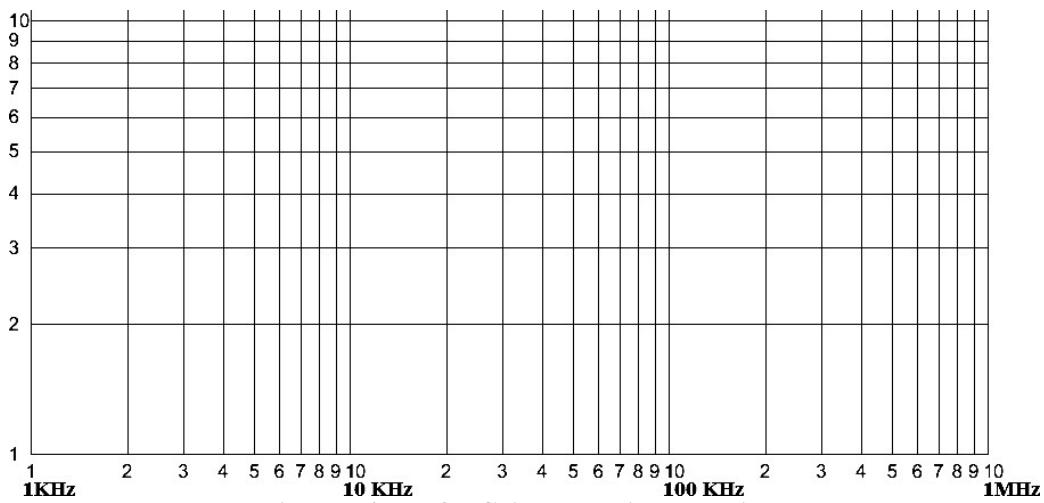

Figure 5.4 Plot for Gain–Bandwidth Relation
- 2) Take the readings of the output voltage at the frequencies mentioned in *Figure 5.4*, and plot the Frequency Vs Output Voltage graph in a graph paper.